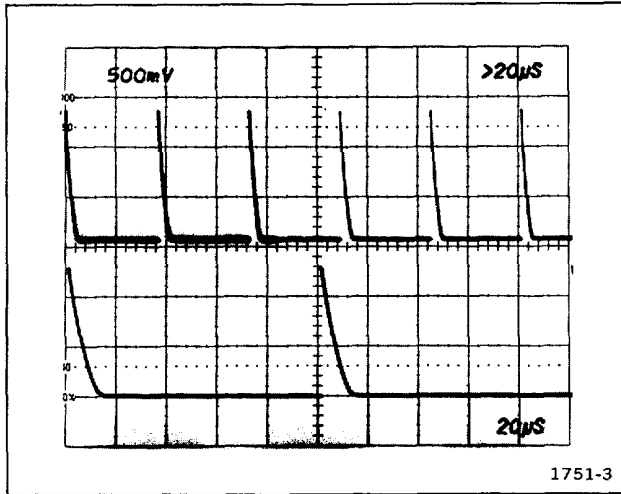

Fig. 5-3. Variable Time/Division range.
g. Check that Delaying sweep markers (top) and Delayed sweep markers are displayed as shown in Fig. 5-3; at least 2-1/2 Delaying sweep markers to one Delayed sweep marker are visible.